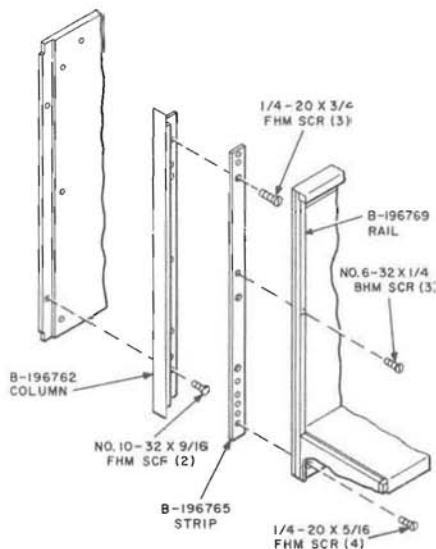

Fig. 10—Partial View of Shelf Assembly
- (c) Remove the following per Fig. 10: